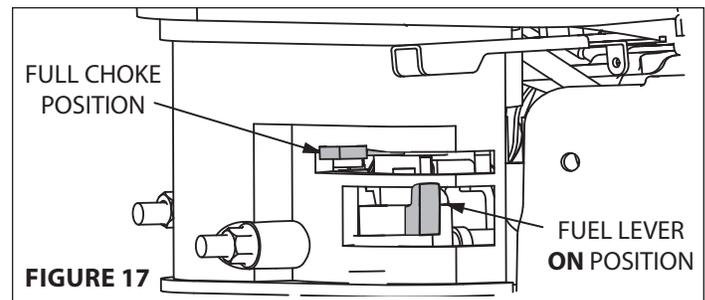

FIGURE 17
1. Shut fuel supply off by moving the fuel lever to the **OFF** position. Failure to turn fuel off may cause raw fuel to enter the crank case contaminating the engine oil and providing insufficient lubrication. **SEVERE ENGINE DAMAGE MAY RESULT. SEE FIGURES 17 AND 18**